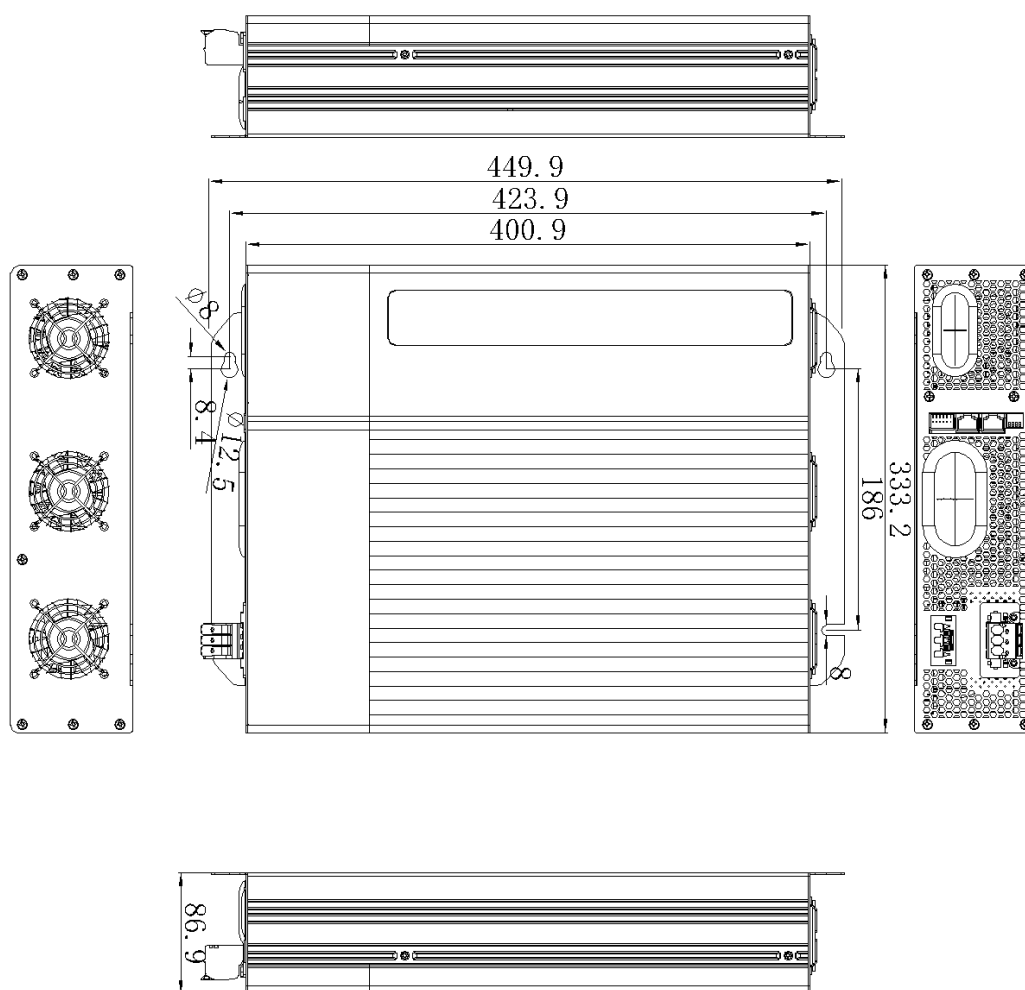
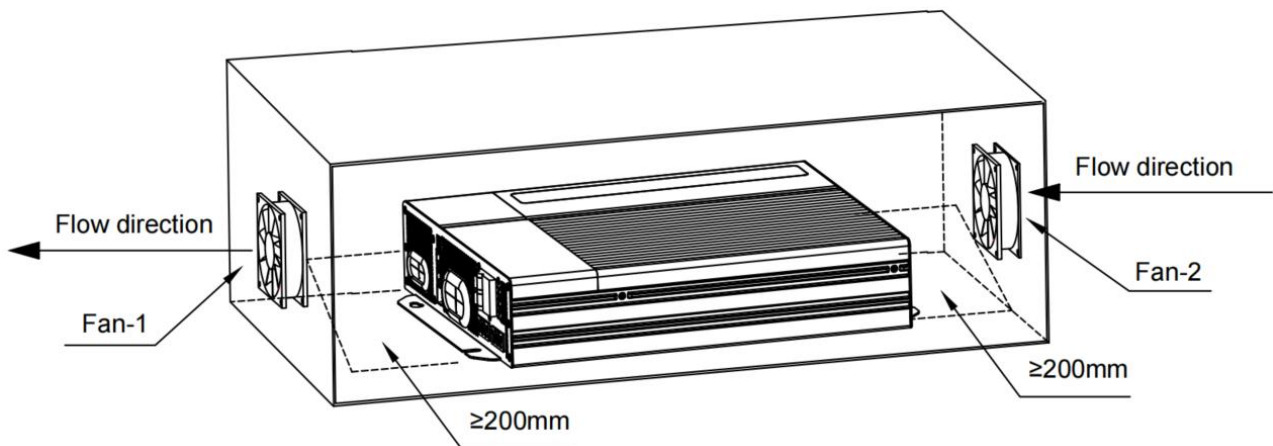

Figure 2-5 Dimension of PG3.0L
Figure 3-1 PG3.0L Installation Space Requirements
- PG inverter adopts a forced air cooling method for heat dissipation. To ensure good heat dissipation, sufficient wiring space is required, and it is recommended to have a certain number of heat dissipation holes in the installation space to ensure air convection. Please determine the installation space and hole positions of the host according to Figure 2-5. Leave 200mm or more space in front and behind the host, and 50mm or more space on both sides of the host to ensure heat dissipation, as shown in Figure 3-1.